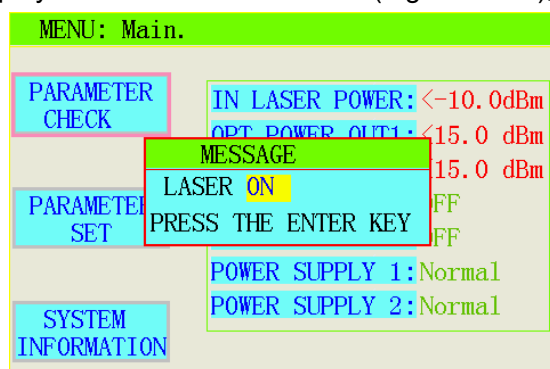

Figure 11
4.3 Laser switch, whether in any state to turn on or off the laser, press LASER ON/OFF,LCD to display the laser switch interface (Figure 11/12), then press ENTER to select and confirm.